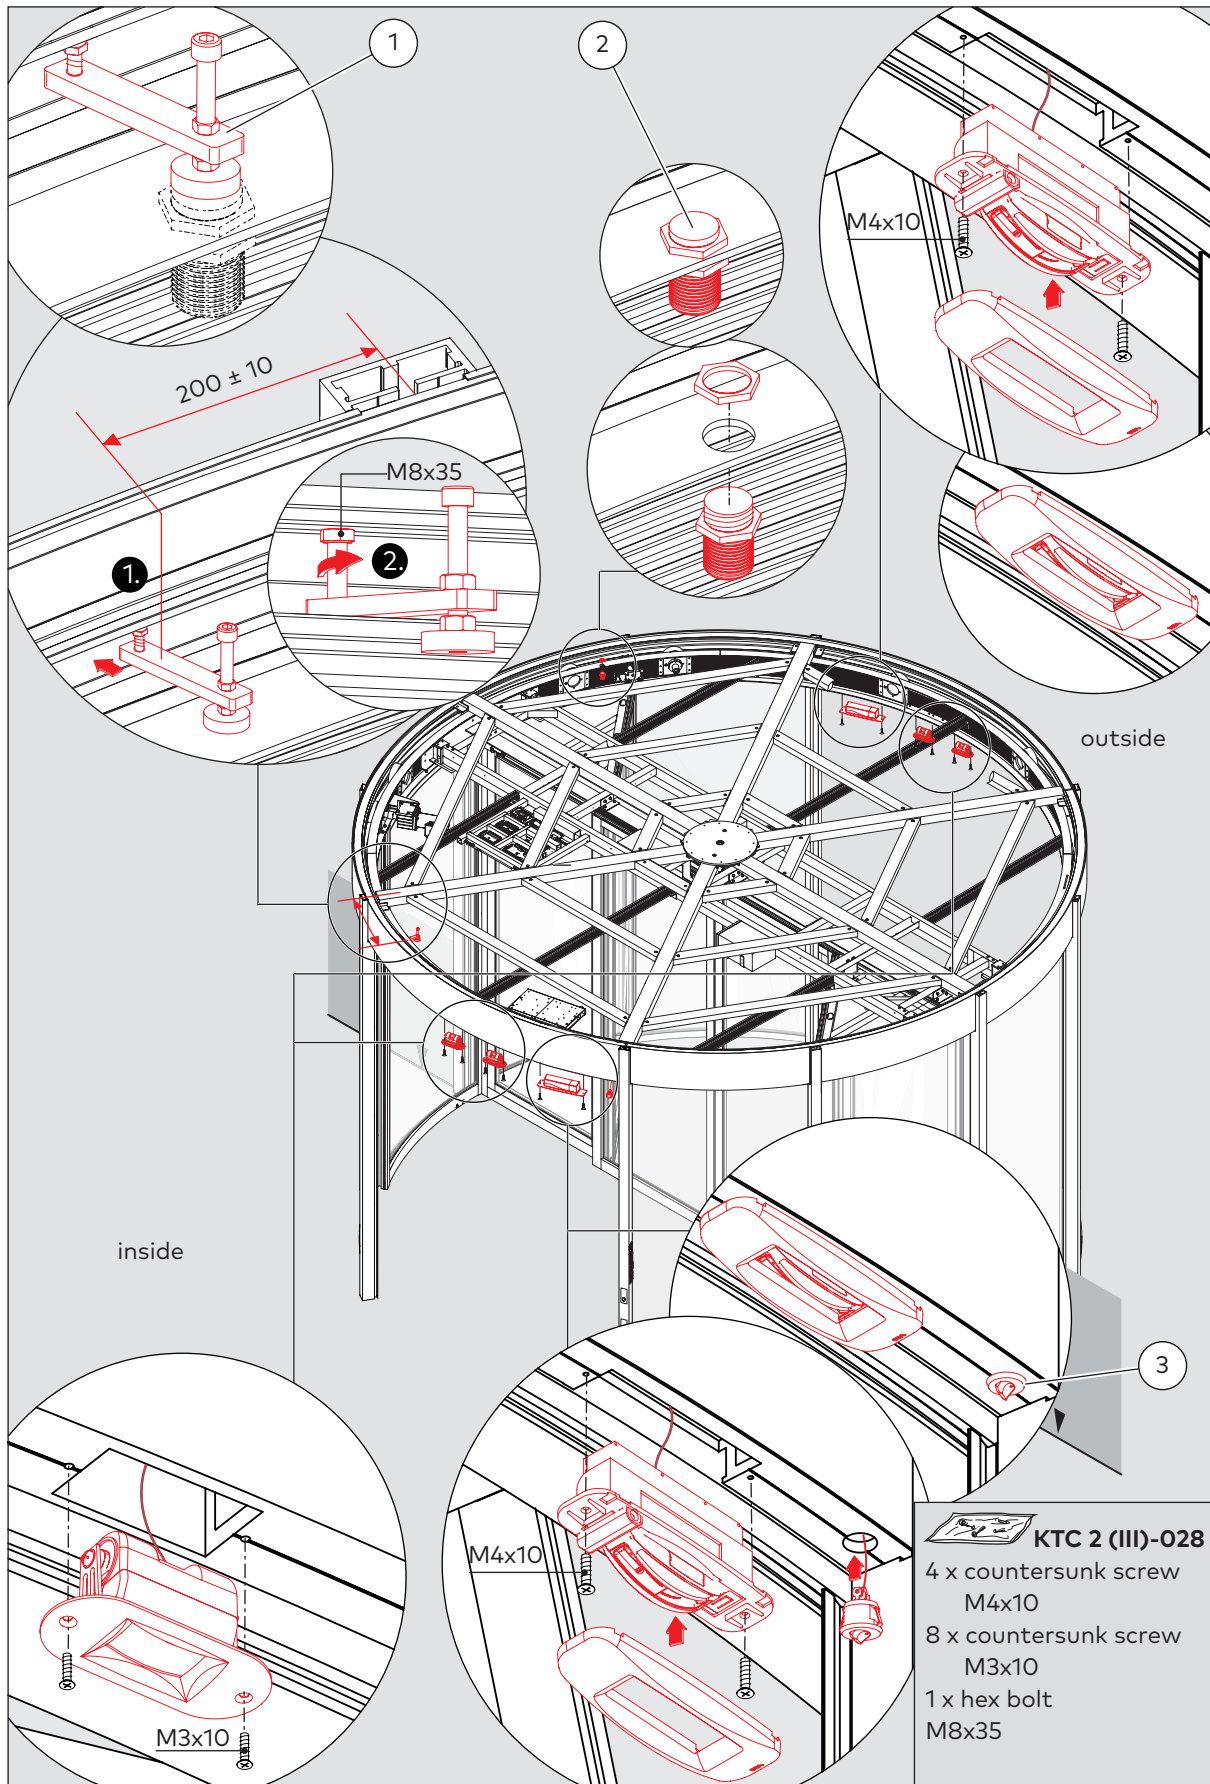

Fig. 94 Installing the sensors in the canopy
3. Screw the zero-point sensor (Fig. 94/2) into the inner ring.
4. Screw the cam (Fig. 94/1) of the zero-point sensor onto the outer ring.
5. Optional: Insert the switch for winter mode (Fig. 94/3) into the recess of the canopy.